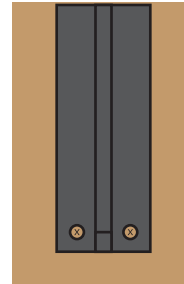

Figure 3
1. Using the bracket's lower leg as a template, mark and drill four (4) pilot holes per bracket (see Figure 3).
2. Without fully tightening the screws, attach each bracket to the wall using four (4) wood screws.
3. Double Check the levelness across the brackets. Make any adjustments as necessary, then fully tighten all screws (see Figure 3).